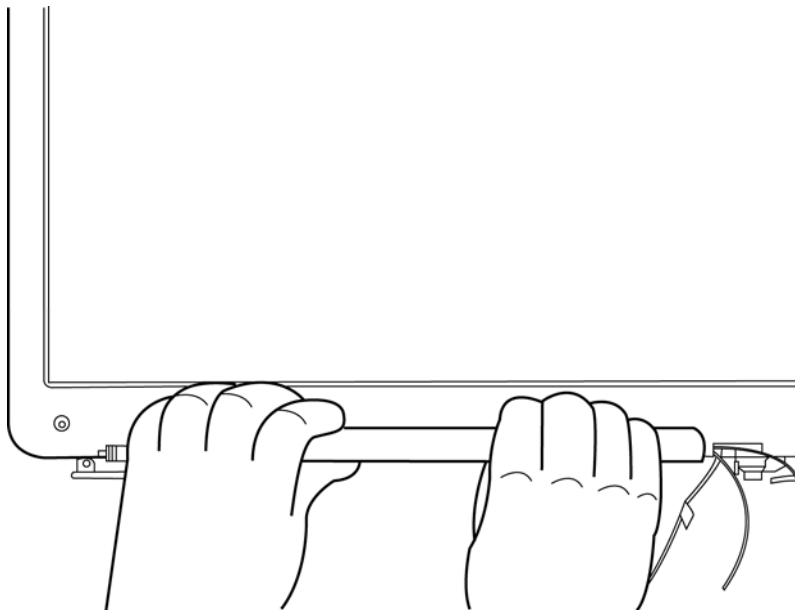

Figure 4.39 Pressing the bezel hinge wall
3. Press the bezel hinge wall against the cover hinge wall as shown in Figure 4.39.